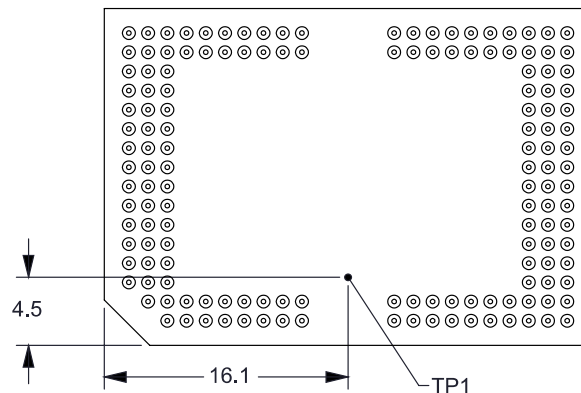

Figure 19. DMD Thermal Test Points
Relationship between array temperature and the reference ceramic temperature (thermocouple location TP1 in Figure 19) is provided by the following equations:
- $T_{\text{CERAMIC}}$  = measured ceramic temperature, TP1 location in Figure 19 (°C)
- $Q_{\text{ARRAY}}$  = total power, electrical plus absorbed, on the DMD array (W)
- $Q_{\text{ELECTRICAL}}$  = nominal electrical power dissipation by the DMD (W)
- $Q_{\text{INCIDENT}}$  = incident optical power to DMD (W)
- (2)